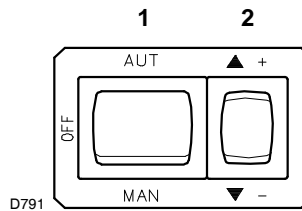

Fig. 22
- Start the burner by closing the thermostats/pressure switch devices, with switch 1)(Fig. 22) in the "MAN" position and with switch 6)(Fig. 6 on page 13) in the "OIL" position.
- Stop the burner: switch 1)(Fig. 22) set to "OFF" and tighten the screw 3).